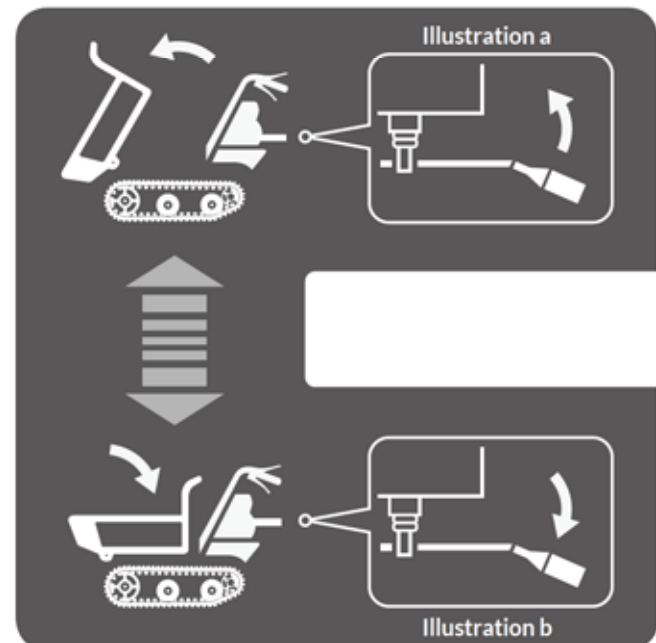

Figure 4
- To raise the hopper, pull the tipping handle upwards (see **Figure 4, Illustration a**) until the hopper has reached the desired position. To stop raising the hopper, simply release the tipping handle and return the locking plate to its original position.
- To lower the hopper, first pull the locking plate up with your left hand to release the tipping handle, and then pull the tipping handle down (see **Figure 4, Illustration b**) with the right hand. When the hopper is lowered to the original position, release the tipping handle back to its original position and lock securely with the locking plate.